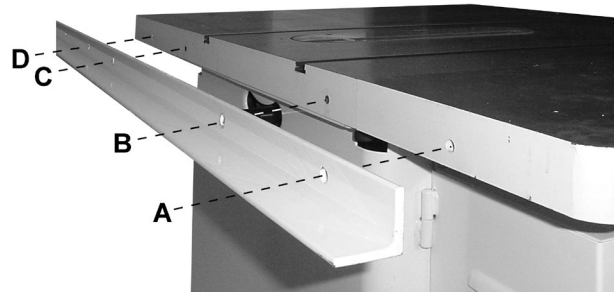
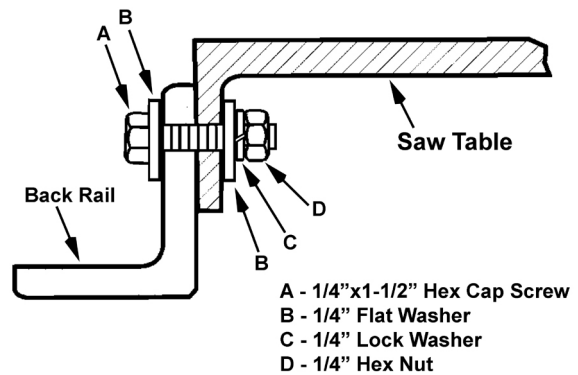

Figure 4
Figure 6
2. Align the holes in the *back rail* to the holes in the table top, as shown in Figure 4.
3. Secure the back rail to the pre-tapped holes in the saw table (B, C, Fig. 4) with two 5/16 x 3/4 hex cap screws and two 5/16 flat washers, as shown in Figure 5. Tighten screws securely with a 1/2" wrench.
4. Secure the back rail at A and D (in Figure 4) to each *extension wing* with a 1/4 x 1-1/2 hex cap screw, two 1/4" flat washers, a 1/4" lock washer, and a 1/4" hex nut as shown in Figure 6.